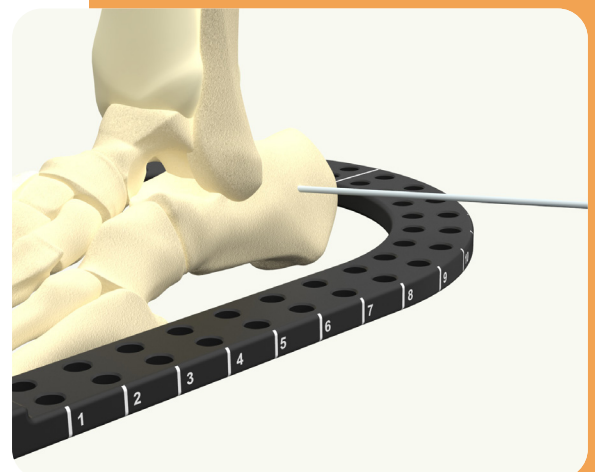

Fig. 5 – Insert Wire
- 5 Insert Wire under power through the posterior calcaneus in line with the Foot Ring (Fig. 5).